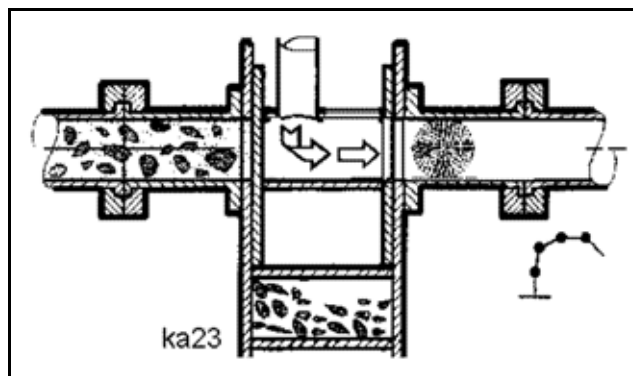

Fig. 469
- Retract the chamber and move the ball into the pumping line with a short blast of air (**Fig. 469**).